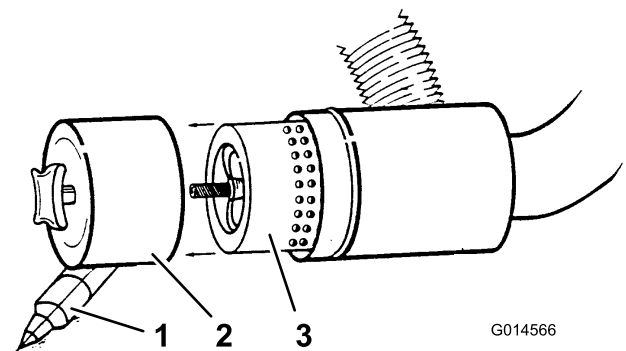

Figure 35
4. Remove and replace the filter (Figure 35).